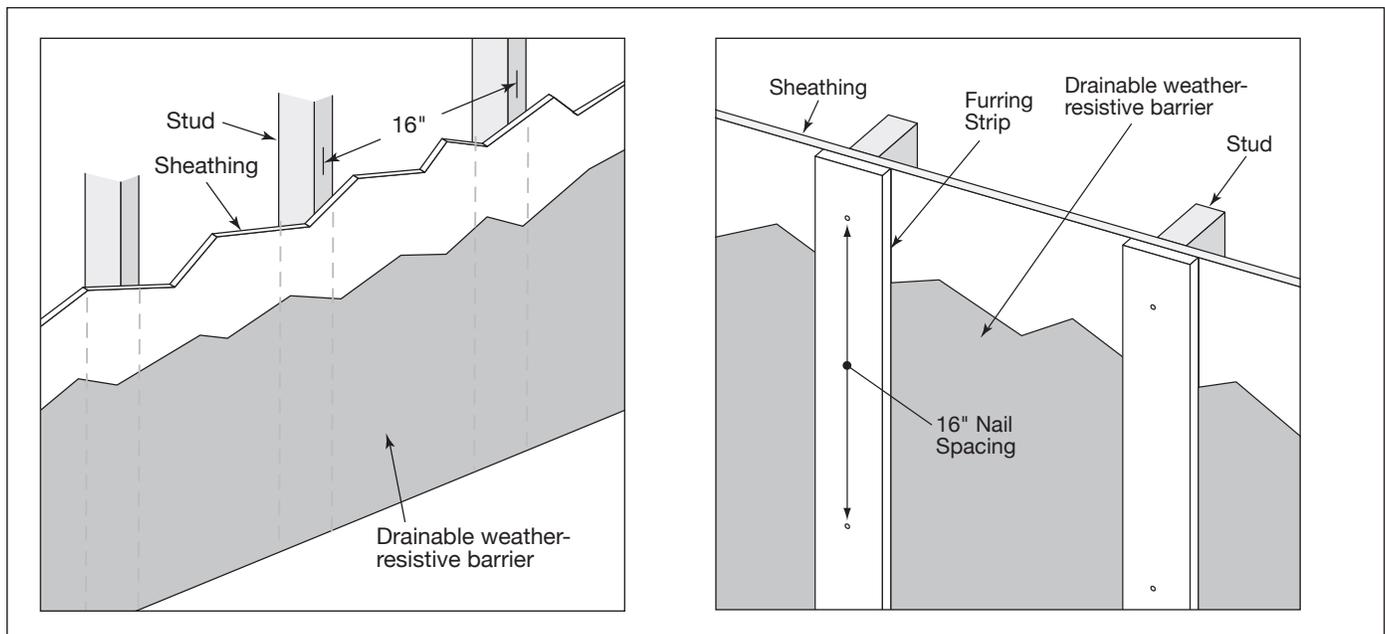

Fig. 39
- Install vertical 1x4 wood furring strips every 16 inches on center directly to each wall stud (**Fig. 39**)
- Secure the furring strips with nails placed every 16 inches from the top to the bottom of the strip (**Fig. 39**)